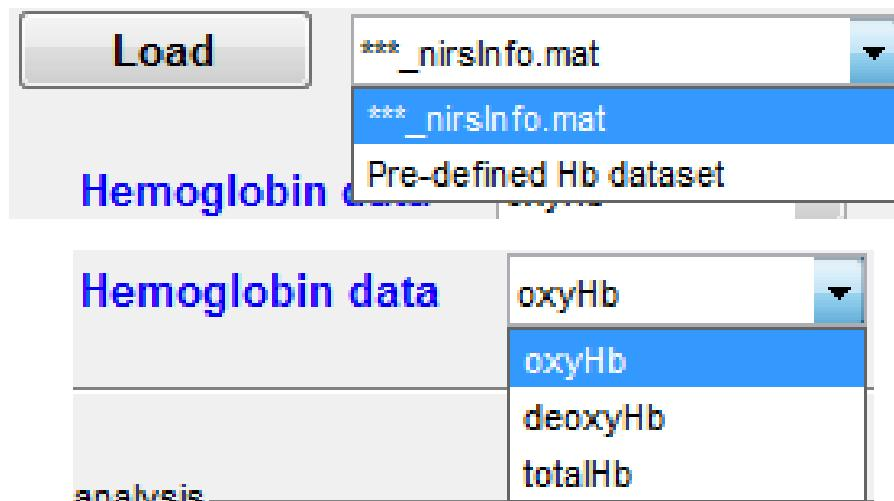
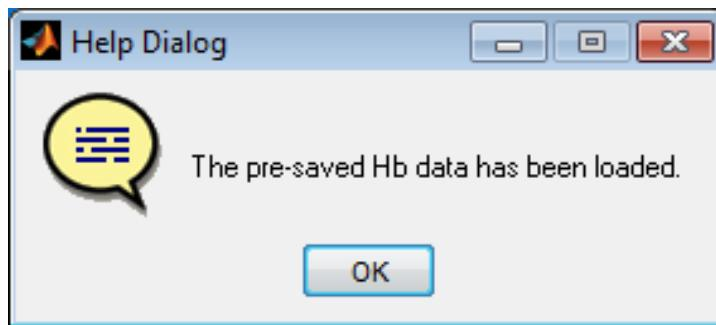

Figure 6-10. Detail views of the drop-down menus in the 'Single data specification' module of the *Statistical Parametric Mapping Level 1 (within subject)* GUI
Figure 6-15. Pop-up message generated by nirsLAB after a SPM-formatted hemodynamic-state data file is loaded.
You may find that most commonly you will proceed directly from initializing a project to preprocessing, computation of hemodynamic states, and analysis. However, we have made a point of designing nirsLAB so that you are not required to get all the way through the processing sequence in a single sitting, and so that you can return to projects that you initialized at any time in the past. In order to achieve this flexibility, you are required to always specify which data set you want to analyze. Therefore, the first step in Level-1 SPM is to make a selection from the drop-down menu, shown enlarged in Figure 6-10, to the right of the *Load* button. Select the 'Pre-defined Hb dataset' option if you want to view results from a GLM computation that you have already performed. Otherwise, select the default '***_nirsInfo.mat' option and, from the items in the second menu shown in Figure 6-10, specify the hemodynamic state that you are interested in. Then click on the *Load* button. A browser window will pop open, for you to use
- The first new file contains a copy of the time series for the hemodynamic state that you selected from the ‘Hemoglobin data’ menu (Figure 6-10). As shown in Figure 6-12, the ‘nirs_data’ sub-folder is its default location, and the nirsLAB-suggested file name contains the selected hemodynamic state and the common root of the project-specific data files. (You are free to choose a different location and/or name if you like.) After you click on the Save button highlighted in Figure 6-14 (blue oval), nirsLAB will produce a pop-up message confirming the location and name of the saved file (Figure 6-15).
- If you have selected ‘Pre-defined Hb dataset’ (*i.e.*, an appropriately reformatted file, such as the NIRS-2012-02-16_004_detector_OxyHb.mat example shown in Figure 6-12, already exists), then navigate to the folder where the file containing the data you want to analyze is stored, select it, and click on the *Open* button, as depicted in Figure 6-14. In response, nirsLAB will produce a pop-up message confirming that the file you specified was successfully loaded (Figure 6-15).
Figure 6-12. An example of the browser window that open after a nirsInfo file is loaded. The nirsLAB-suggested name (red oval) and location (green oval) for the first output file are highlighted. In this example, the common root of the demo dataset is 'NIRS-2012-02-16_004' and the oxygenated hemodynamic state was selected from the 'Hemoglobin data' menu (Figure 6.10).
Figure 6-22. (Top) Detail view of the changes, produced by selecting 'hrf' in the drop-down menu (blue oval), seen in the 'Specify basis function:' row of the 'Model Specification' module of the *Parameter Setup for GLM Analysis (Level 1)* GUI (Figure 6-10). (Bottom) Clicking on the *View BF* button (red oval) produces a pop-up plot of the canonical hemodynamic response function corresponding to the default user-specifiable parameters (green oval).
Figure 6-28. Detail view of the 'Specify (multiple) conditions' drop-down menu in the 'Model Specification' module of the *Parameter Setup for GLM Analysis (Level 1)* GUI (Figure 6-10).